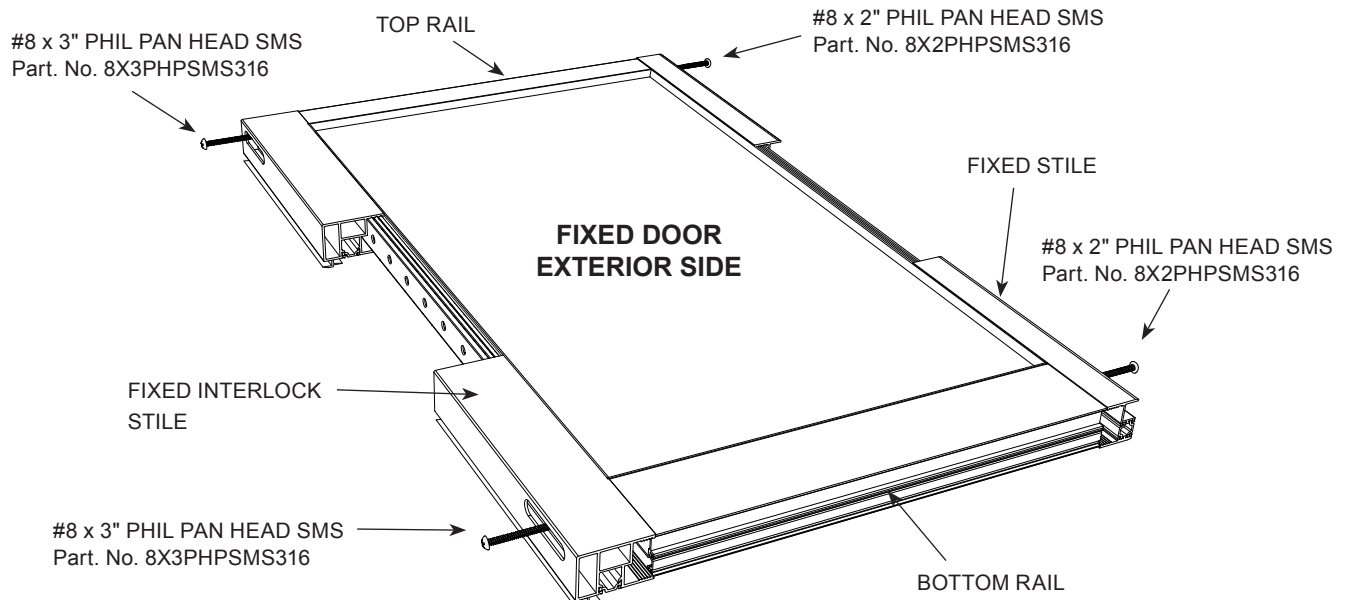

FIG. 9
8. Secure all corners with fasteners shown. (FIG. 9)